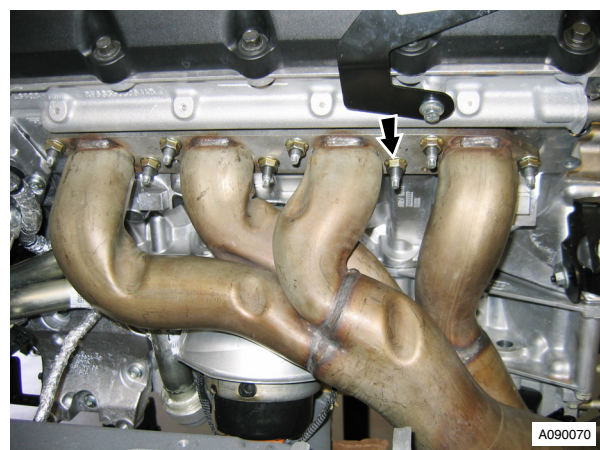

Fig. 4
11. Remove nuts (X8), LH exhaust manifold to cylinder head, remove manifold (see Fig. 4).